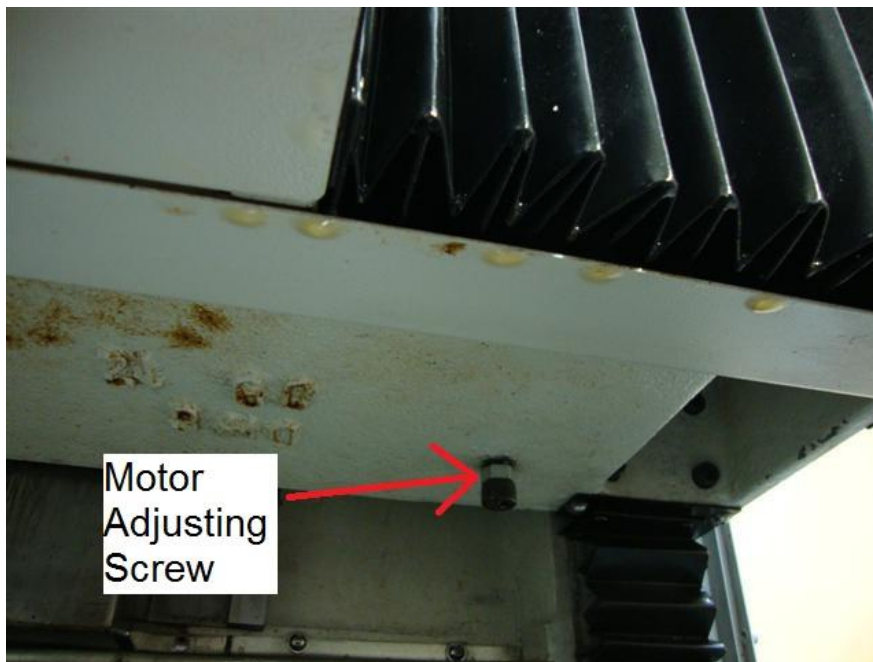

Figure 6.1.1d
11. Lower the X-axis servo motor adjusting screw located on the underside of the bridge, until the motor is resting on the inside bottom of the bridge. See figure 6.1.1d.